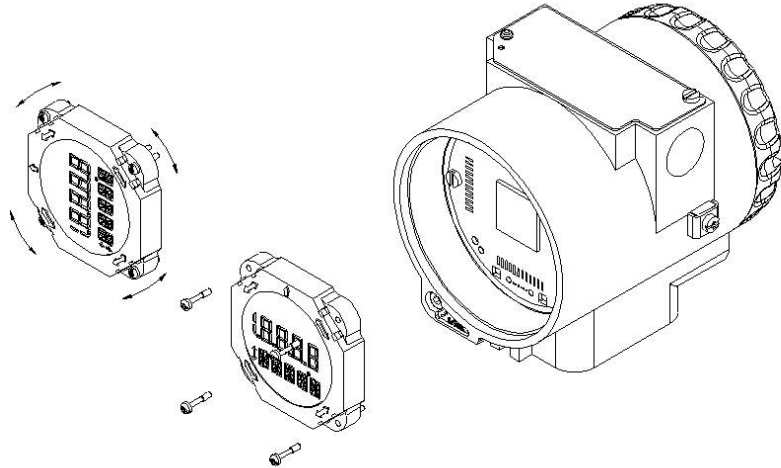

Figure 4.2 – Four Possible Positions of the Display
- Put input board (8) into housing (18);
- Tighten input board with its screws (7);
- Put main board (6) into the housing, ensuring all interconnecting pins are connected;
- Anchor main board with their screws (5);
- Put display (4) into the housing, observing the four mounting positions (see Figure 4.2) "▲" symbol should point in the direction desired as UP;
- Anchor display with their screws (3);
- Fit the cover (1) and lock it using the locking screw (17).